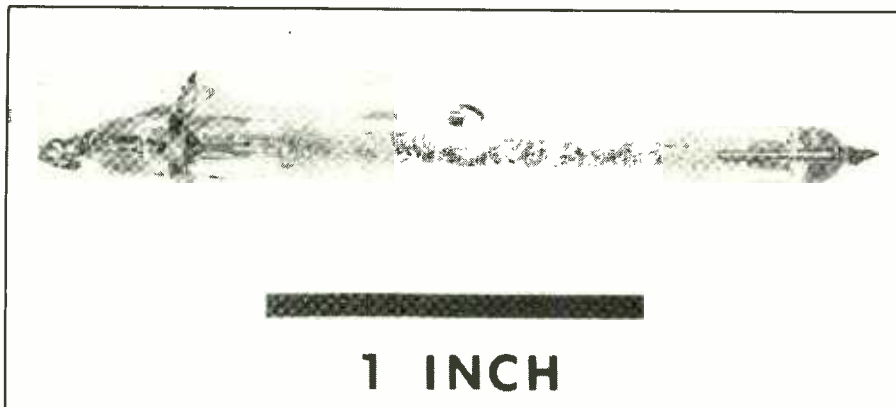

Fig. 3. This flashtube was fractured when its explosion energy was exceeded.
- Never exceed the explosion energy of a xenon flashtube. The tube will fracture and very possibly shatter. Shown in Fig. 3 is a flashtube that fractured when I connected it to a large photoflash capacitor that, when charged, exceeded the tube's explosion energy.